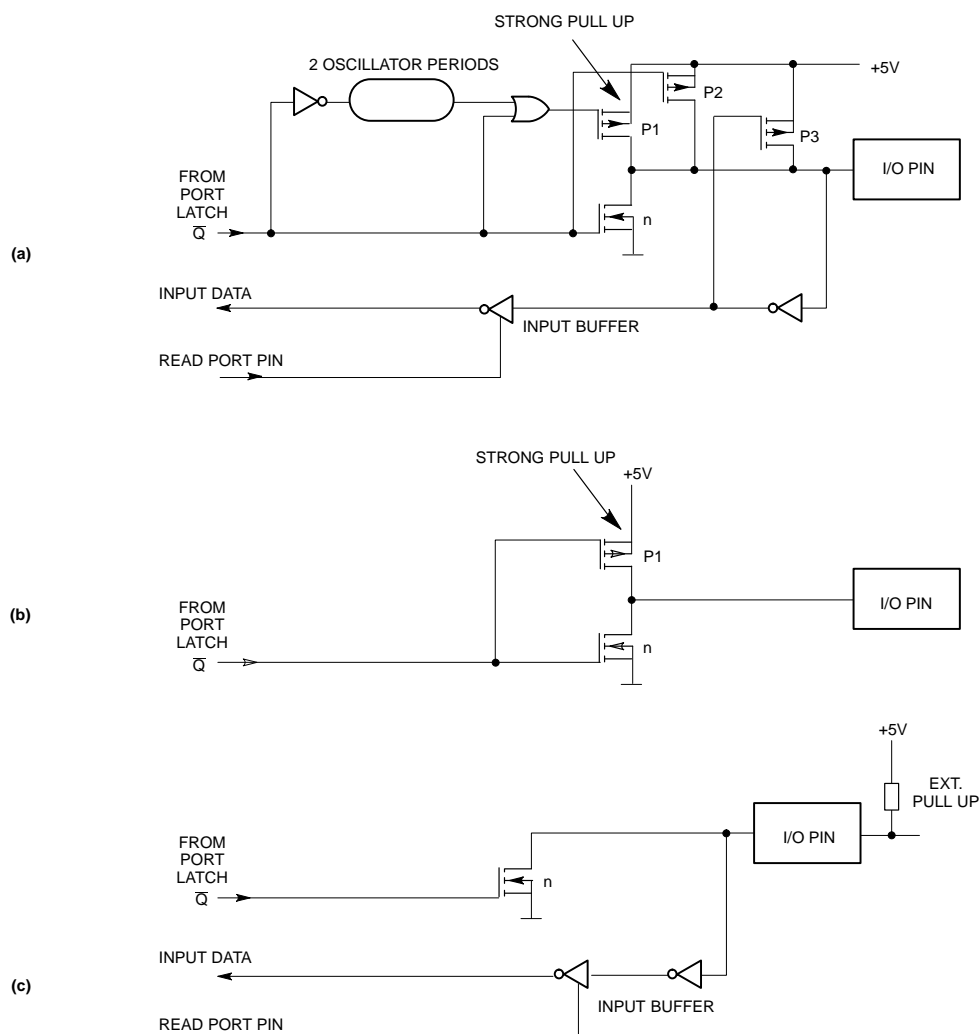

Figure 3. Ports
Each port consists of a latch (Special Function Registers P0 to P3), an output driver and an input buffer. Ports 1,2,3 have internal pull ups. Figure 3(a) shows that the strong transistor p1 is turned on for only 2 oscillator periods after a 0-to-1 transition in the port latch. When on, it turns on p3 (a weak pull up) through the inverter. This inverter and p3 form a latch which hold the 1. In Port 0 the pull up p1 is only on when emitting 1s for external memory access. Writing a 1 to a Port 0 bit latch leaves both output transistors switched off so the pin can be used as a high-impedance input.
The pins of port 1, port 2, and port 3 may be individually configured with one of the following options (see Figure 3):
- Option 1: Standard Port; quasi-bidirectional I/O with pull up. The strong booster pull up p1 is turned on for two oscillator periods after a 0-to-1 transition in the port latch (see Figure 3(a)).
- Option 2: Open drain; quasi-bidirectional I/O with n-channel open drain output. Use as an output requires the connection of an external pull up resistor (see Figure 3(c)).
- Option 3: Push-Pull; output with drive capability in both polarities. Under this option, pins can only be used as outputs. See Figure 3(b).
Option 2: Open drain; quasi-bidirectional I/O with n-channel open drain output. Use as an output requires the connection of an external pull up resistor (see Figure 3(c)).
The status of the external pins during Idle and Power-down mode is shown in Table 1. If the Power-down mode is activated while accessing external memory, port data held in the Special Function Register P2 is restored to Port 2. If the data is a logic 1, the port pin is held HIGH during the Power-down mode by the strong pull up transistor p1 (see Figure 3(a)).